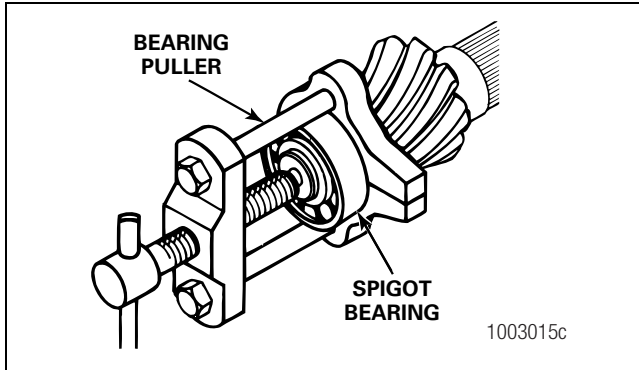
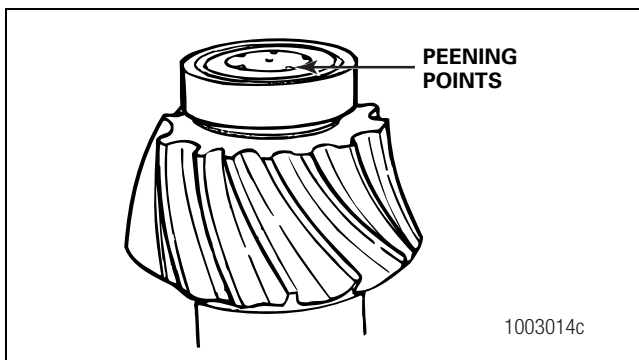

Figure 3.32
Figure 3.33
9. Remove the spigot bearing from the drive pinion with a bearing puller. Figure 3.32. Some spigot bearings are fastened to the drive pinion with a special peening tool. Figure 3.33.